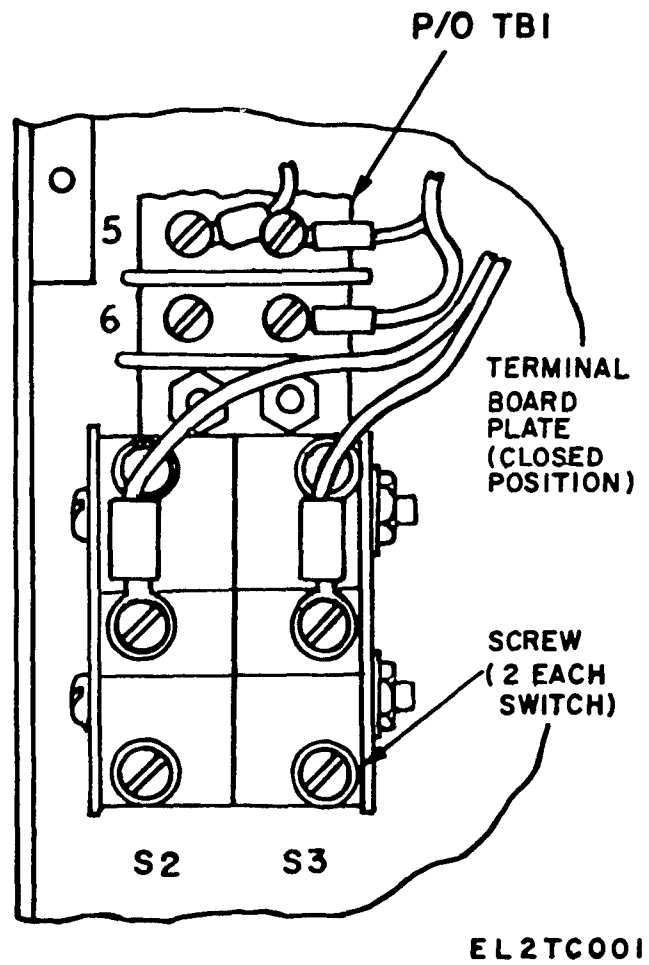

Figure 3-1. Rear view of interlock switches.
*b.* On units procured under Contract No. 20256-PP-62-C2-41, the semiconductors on CR1 and CR2 cannot be removed. If a semiconductor is found to be defective on either CR1 or CR2, proceed with steps (1) through (7) below for replacement.
(1) Disconnect the PP-1104C/G from its source of power by removing the power cable or opening the main power circuit breaker.
(2) Remove the back cover of the power supply. Viewing the defective semiconductor on the rear of CR1 or CR2, clip the electrical lead from it.
(3) Alongside the defective semiconductor, drill a 17/32-inch hole through the CR1 or CR2 assembly heatsink plate.
(4) Mount an IN1184 semiconductor in the drilled hole as a replacement for the defective semiconductor.
(5) Solder the lead, clipped in (2) above, to the replacement semiconductor.
(6) Replace the power supply back cover removed in (2) above, and restore power to the unit.
(7) Perform the tests listed in chapter 4.
*c.* On units procured under Contract No. DAAB07-76-C-1363, interlock switch S2 or S3 (fig. 3-1) can be removed by disconnecting the wires attached to the switch and loosening the screws. Make sure the replacement switch is positioned so that the switch is firmly pressed-in when the terminal board plate is closed. Secure the replacement switch with screws and attach the previously removed wires.